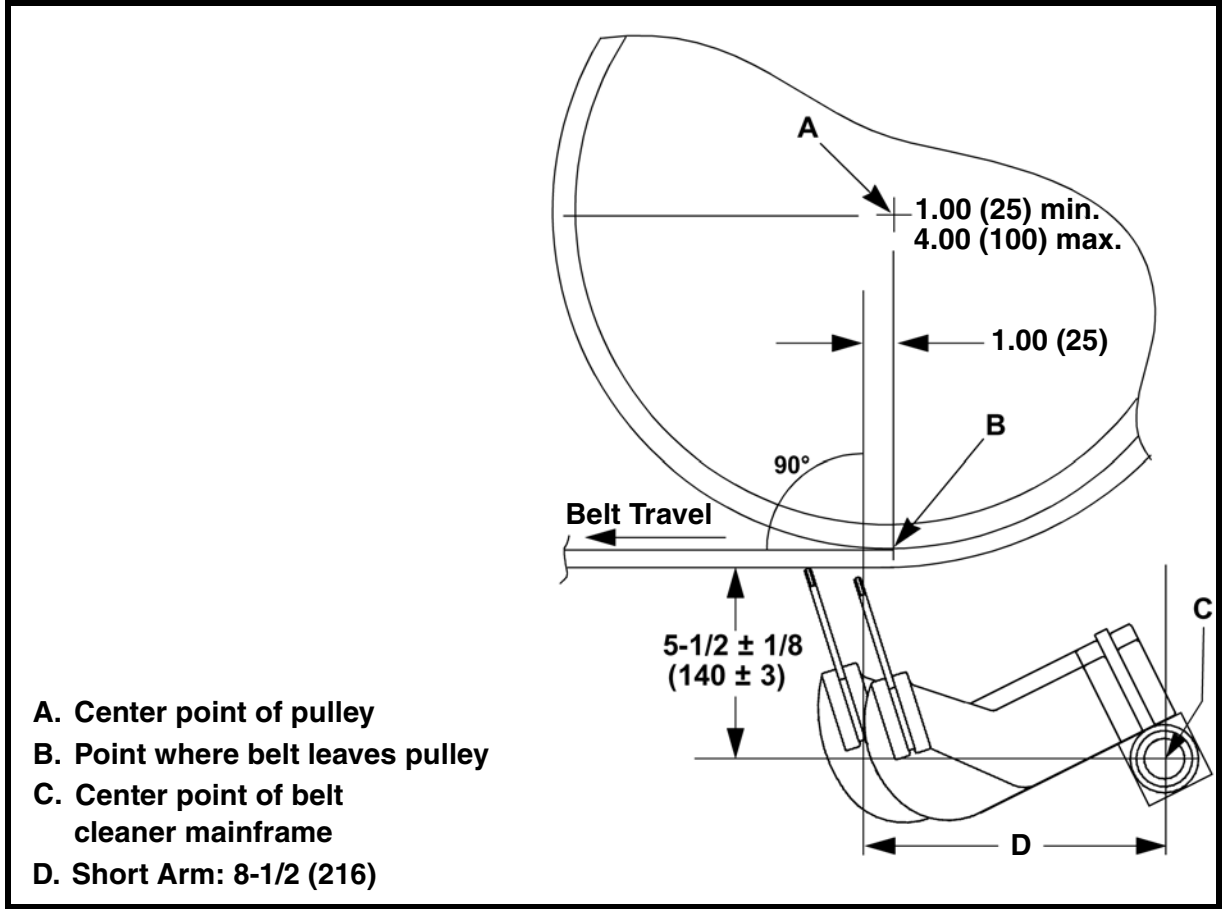

Figure 1. Belt Cleaner Mainframe Location
1. On operator side chute wall, draw horizontal and vertical center lines of pulley to find pulley center point (A). Make sure vertical center line is perpendicular to belt line.
2. Measure 1 in. (25 mm) past point where belt leaves pulley (B), and mark vertical line on chute wall perpendicular to belt line. (More than 4 in. [100 mm] requires a hold-down roller.)
4. Measure vertically and horizontally as shown in Figure 1 and mark mainframe center point (C).